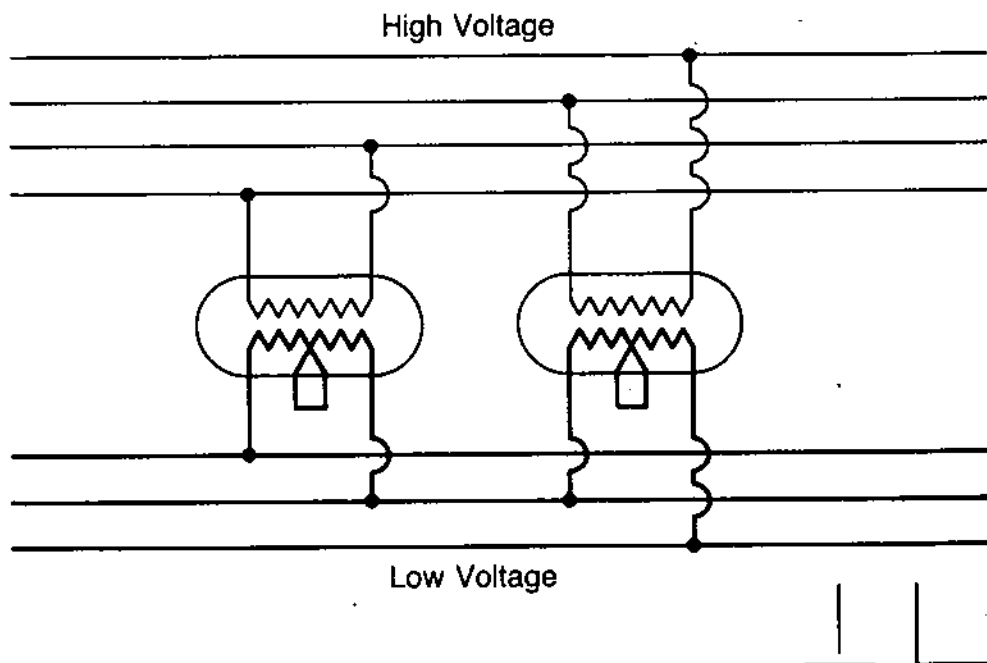

Fig. 30 – Two-Phase, Four-Wire to Two-Phase, Three-Wire
b. Two-phase, four-wire to two-phase, three-wire Connection is shown in Figure 30. The two phases on the low-voltage side are electrically connected. The common third wire is sometimes grounded. With balanced load, the current in the common wire is the value of the square root of two times the current in the outside wires.